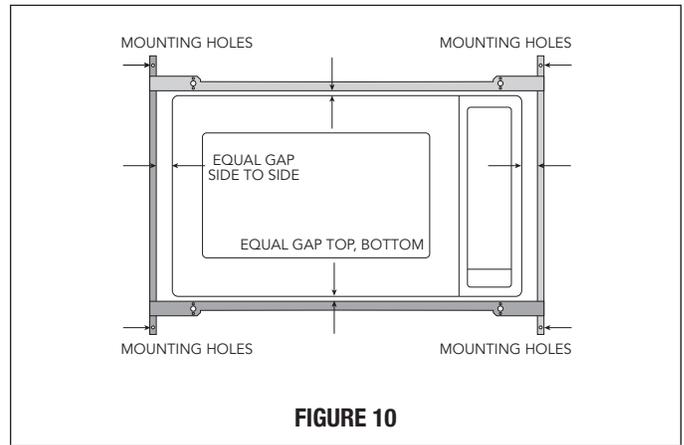

FIGURE 10
E. BACK FRAME INSTALLATION: Position **BACK FRAME** equal space top to bottom, side to side. Mark for 4 holes, center punch and pre-drill with 1/16" drill bit. Secure frame with 4 **SCREWS (G)**. See Figure 10.